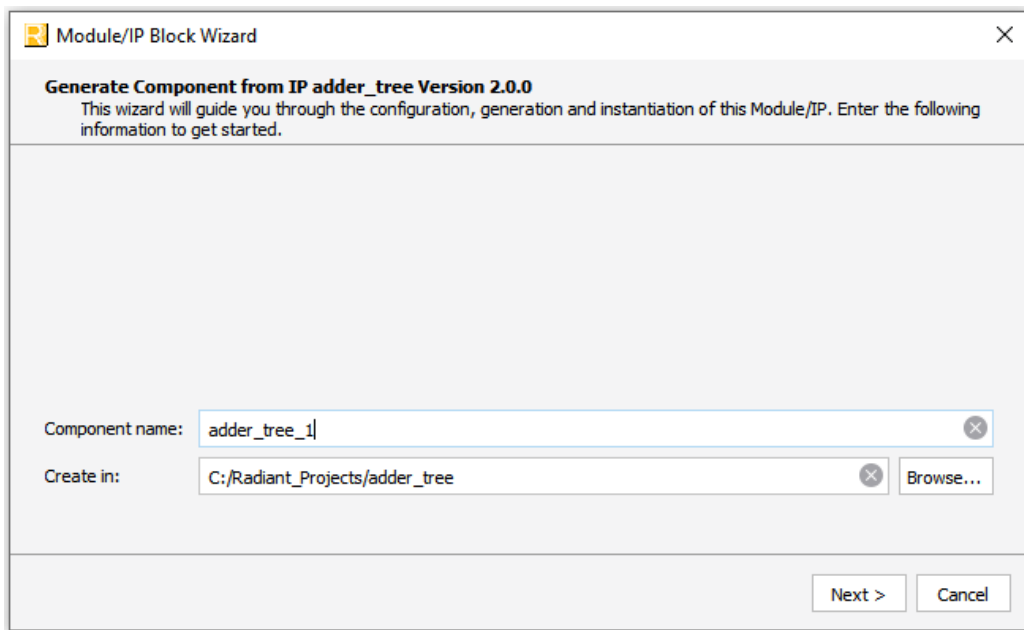

Figure 3.1. Module/IP Block Wizard
3. The **Module/IP Block Wizard** opens as shown in Figure 3.1. Enter values in the **Component name** and the **Create in** fields and click **Next**.
- Click **Finish**. All the generated files are placed under the directory paths in the **Create in** and the **Instance name** fields shown in Figure 3.1.